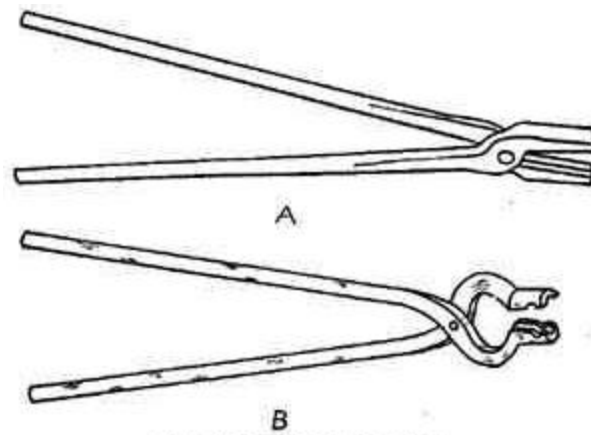

FIG. 245.—Types of tongs.
**278. Tongs.** -- At least one or two pairs of tongs will be needed. Various types are available, but the hollow-bit, curved-lip bolt tongs are probably the most useful. Flat bars as well as round rods and bolts can be held in them, and the curved part back of the tip makes it possible to reshape them easily to fit different sizes of stock. By grinding, filing, or sawing a groove crosswise in each of the lips, the tongs can be made to hold links practically as well as regular link tongs (see Fig. 245). Tongs 18 to 20 in. long are a good size for average work.
Fig. 245.-Types of tongs. (A). Flat-jawed hollow-bit tongs. (B). Hollow-bit curved-lip tongs. This style is very good for the farm shop. Flat bars as well as round rods and bolts can be held in them.